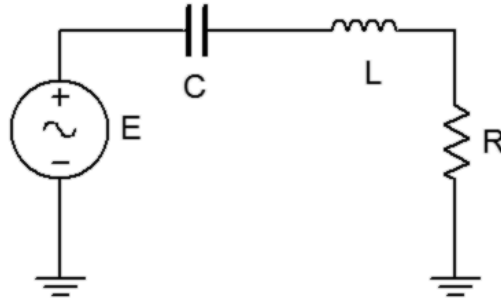

Figure 13.1
1. Using Figure 13.1 with $R=470\ \Omega$, $L=10\ \text{mH}$, and $C=10\ \text{nF}$, determine the theoretical resonance frequency and Q , and record the results in Table 13.1. Based on these values determine the upper and lower frequencies defining the bandwidth, f_1 and f_2 , and record them in Table 13.1.
2. Build the circuit of Figure 13.1 using $R=470\ \Omega$, $L=10\ \text{mH}$ and $C=10\ \text{nF}$. Place a probe across the resistor. Set the output of the generator to a $1\ \text{V}$ p-p sine wave. Set the frequency to the theoretical resonance frequency of Table 13.1. Make sure that the *Bandwidth Limit* of the oscilloscope is engaged for both channels. This will reduce the signal noise and make for more accurate readings.
7. Build the circuit of Figure 13.1 in a simulator. Using AC Analysis, plot the voltage across the resistor from 1 kHz to 100 kHz for both the high and low Q cases and compare them to the plots derived from Tables 13.2 and 13.4. Be sure to include the 50Ω source resistance and coil resistance in the simulation.